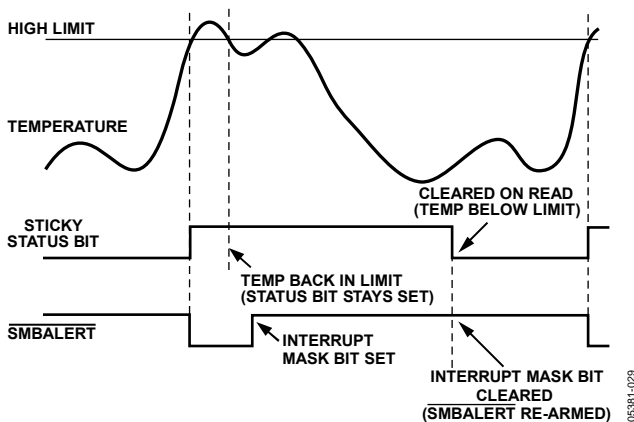

Figure 26. How Masking the Interrupt Source Affects  $\overline{\text{SMBALERT}}$  Output
7. Periodically poll the status registers. If the interrupt status bit has cleared, reset the corresponding interrupt mask bit to 0. This causes the  $\overline{\text{SMBALERT}}$  output and status bits to behave as shown in Figure 26.